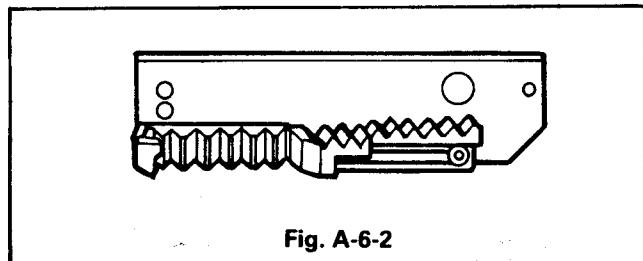

Fig. A-6-2
① Turn the Drive Gear Assembly in the direction of arrow (C).
- 2) Reassemble the Rack Gear N.D. to the Side Bracket Assembly, as shown in Fig. A-6-2, and then reassemble